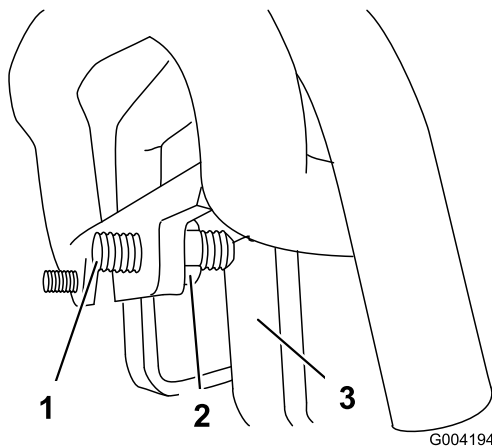

Figure 58
3. If the machine veers to the **left**, loosen the **right** jam nut and adjust the tracking set screw on the front of the traction control (Figure 58).
4. If the machine veers to the **right**, loosen the **left** jam nut and adjust the tracking set screw on the front of the traction control (Figure 58).